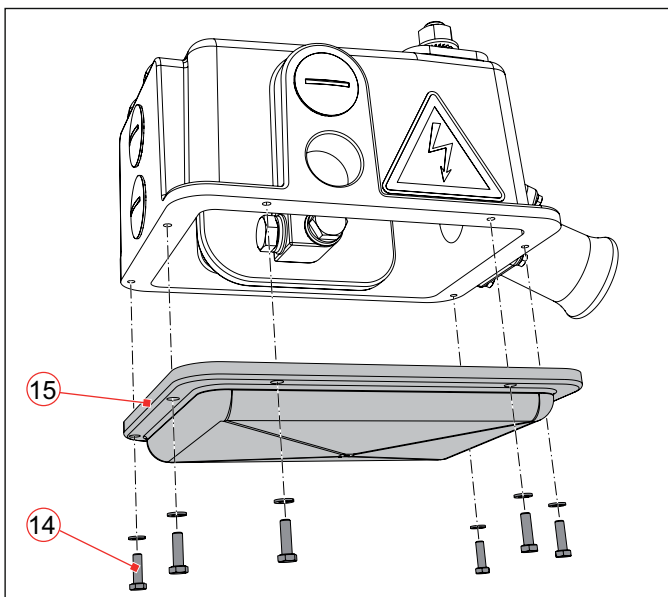

Fig. 22: Remove the shell cover of the cable junction box
- ▶ For preparing the connections, release the 6 screws (14) of the shell cover (15) on the bottom side of the cable junction box (Fig. 22).
- ▶ Remove the shell cover (15) together with the glued in seal.
After having checked all cable connection for correct laying and secure attachment, mount the shell cover again on the bottom side of the cable junction box, see Fig. 22.